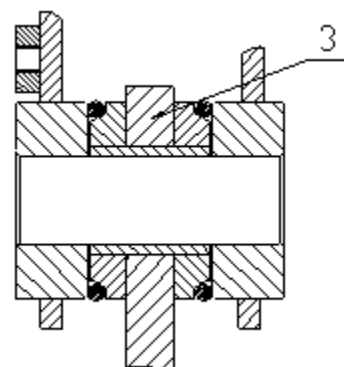

Figure 3
Remove the old O-ring, install the new O-ring (4, Figure 3), and confirm that the O-ring on the lift arm (3) groove has been cleaned.